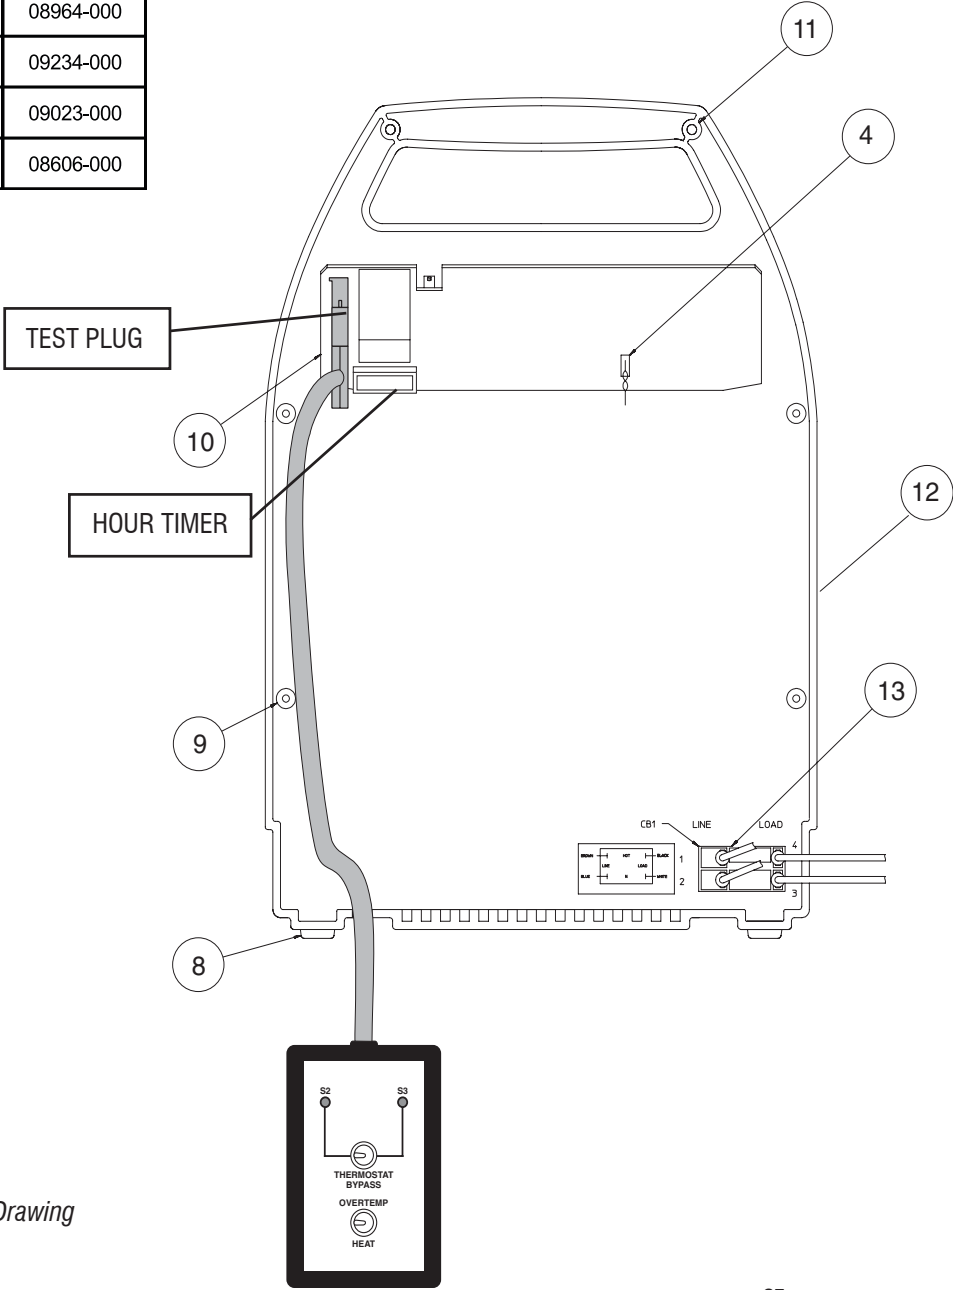

Figure 10 -
To replace the P.C. board assembly (item 9, fig. 10):